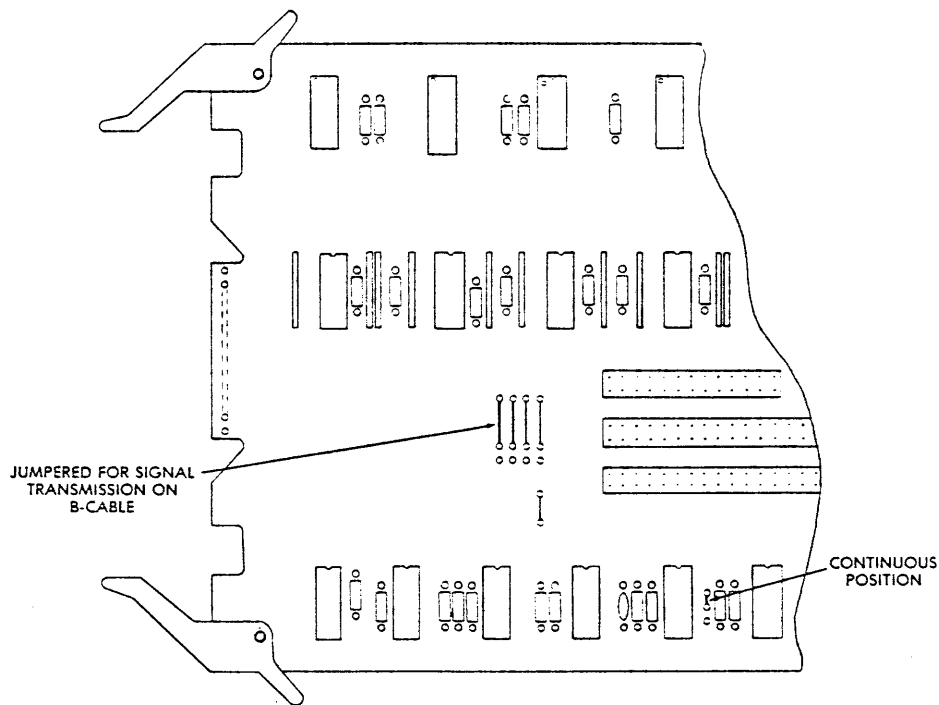

Figure 3-7. MFAFAX Card Jumped for B-Cable Continuous
- B-cable continuous** The jumpers on the __FAX card (slot A08) must be configured as shown in Figure 3-7. The card should be labeled as DFAF. Dual channel drives have a second card in slot B08 which must be jumpered in the same way.